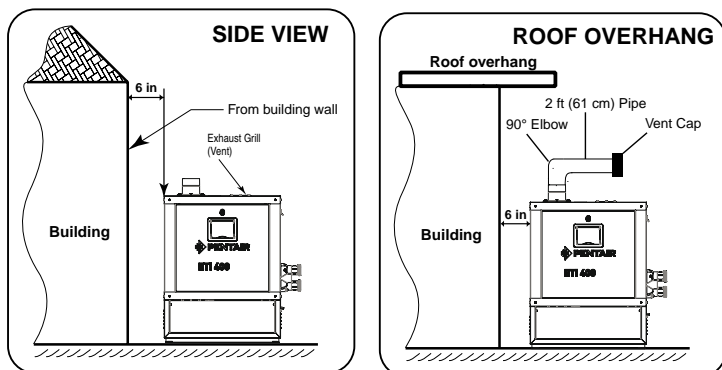

Figure 19.
**⚠ CAUTION!** In an outdoor installation it is important to ensure water is diverted from overhanging eaves with a proper gutter/drainage system. **CAUTION!** If the heater is installed directly under a roof overhang, install a 90° street elbow onto the vent terminal. Install a 2 ft (61 cm) pipe section onto the elbow. Install the vent cap onto the end of the pipe. Direct the vent cap away from the house or building, See Figure 19 below.
**Note:** Check local building codes for installing the heater from any property line set back requirements (see Figure 19 on page 25 for installation illustration).